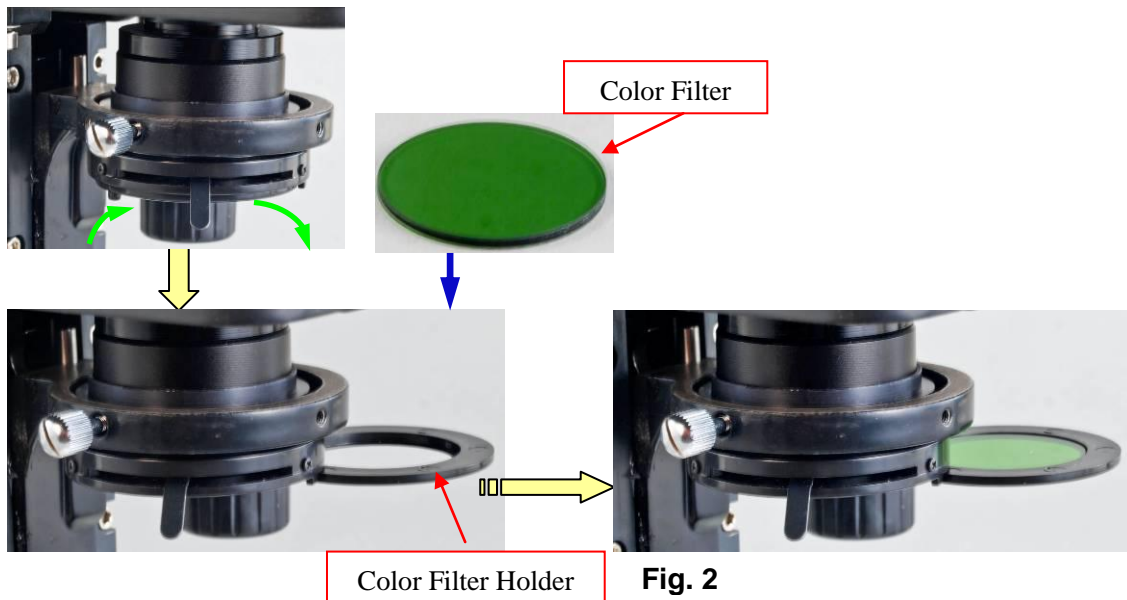

Fig. 2
- 2) Place the filter into the holder as shown in **Fig. 2**, swing the holder in.